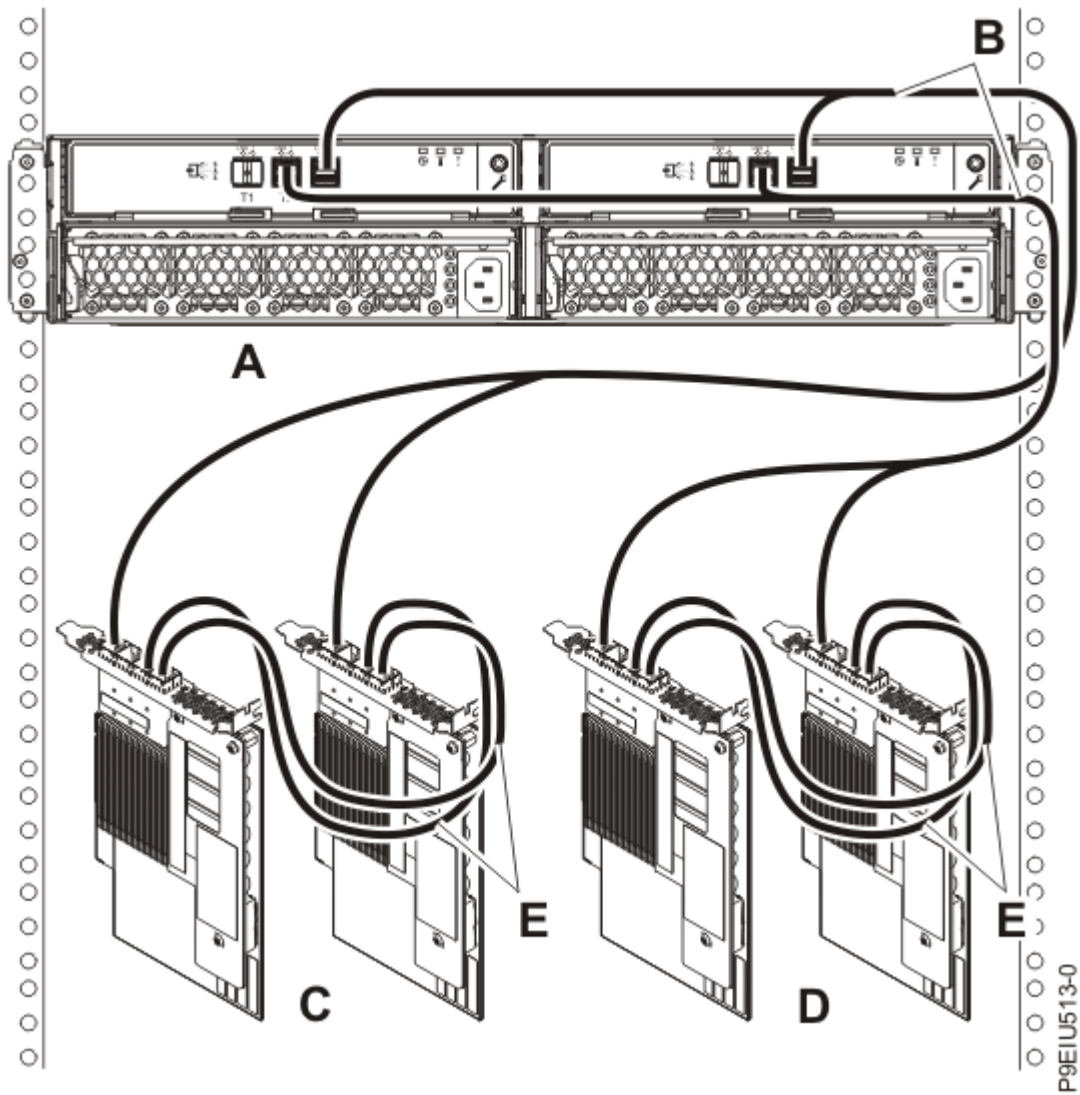

Figure 22. Mode 2 connection of one ESLS by using X12 cables to two FC EJ0L SAS adapter pairs or two FC EJ14 SAS adapter pairs with AA cables
22. Complete a mode 2 connection of one enclosure (**A**) by using X12 cables (**B**) to two FC EJ0L SAS adapter pairs or two FC EJ14 SAS adapter pairs (**C and D**) with AA cables (**E**), as shown in Figure 22 on page 27. Then, continue with “Connecting cables, power cords, and installing covers” on page 29.